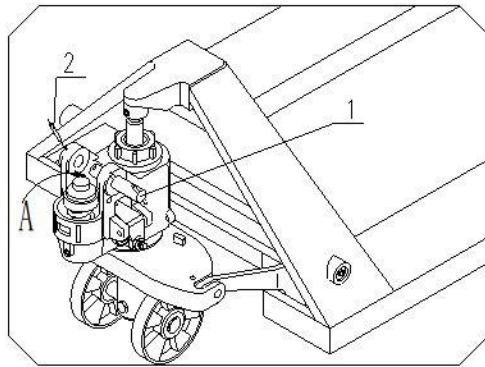

Fig. 1
- 3.1 See fig. 1. Pull out the coupling pin (1).